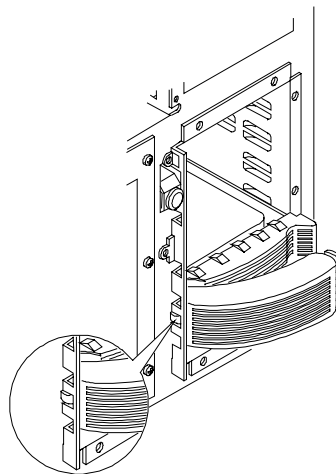

Figure 4-15. Locking Tab Location
1. To unlock the drive, push the locking latch in and then pull the ejector handle toward you. See Figure 4-15.